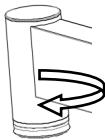

Figure 2 Adjustable feet of the table
- Adjustable feet for height adjustment are installed on two legs of the table. Every time after moving, please make sure that the four adjustable feet are in full contact with the ground, otherwise you should rotate the adjustable feet to adjust.(Figure 2)